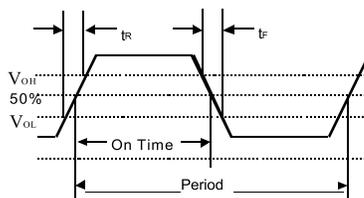
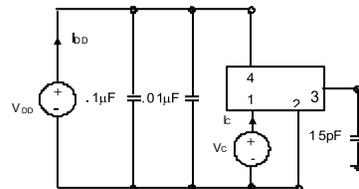

Figure 5. Output Waveform
Figure 6. Typical Output Test Conditions (25 ± 5°C)
2. Figure 5 defines these parameters. Figure 6 illustrates the operating conditions under which these parameters are tested and specified.